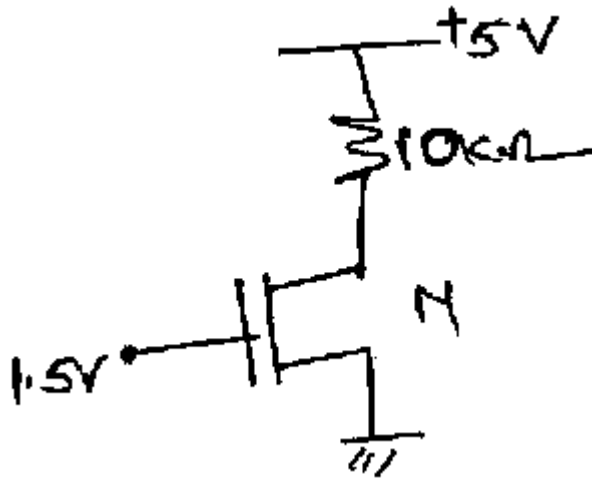

Figure 1
8. For the circuit shown in figure 1 calculate  $I_D$  and  $V_{Ds}$